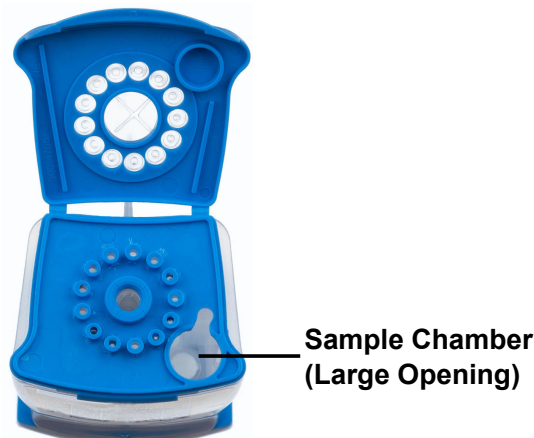

Figure 11. Xpert Xpress CoV-2 plus Cartridge (Top View)
11. To transfer the sample to the cartridge, squeeze the top bulb of the pipette completely again until it is fully flat to empty the contents of the pipette (300 µL) into the large opening (Sample Chamber) in the cartridge shown in Figure 11. Some liquid may remain in the overflow reservoir. Dispose of the used pipette.